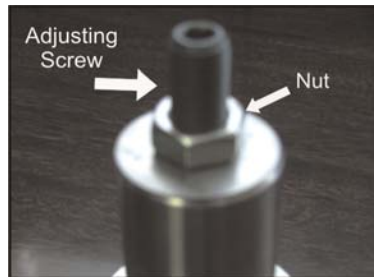

Figure 3
- 2.3.3 Loosen or tighten the adjusting screw until the gauge reads the desired pressure for outlet (see Figure 3).